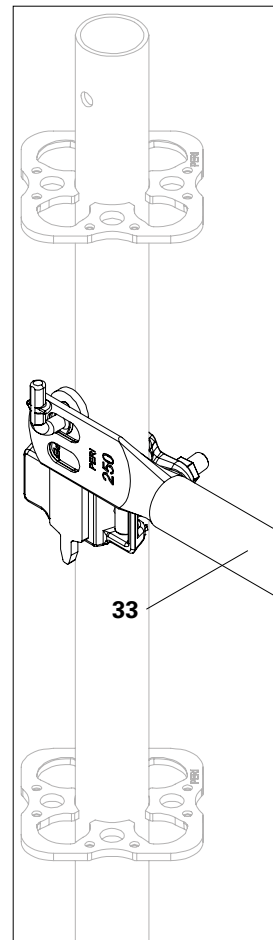

Fig. A11.04b
2. Hang the Guardrails EPG (**33**) and intermediate guardrails on the guardrail hooks. (Fig. A11.04b)